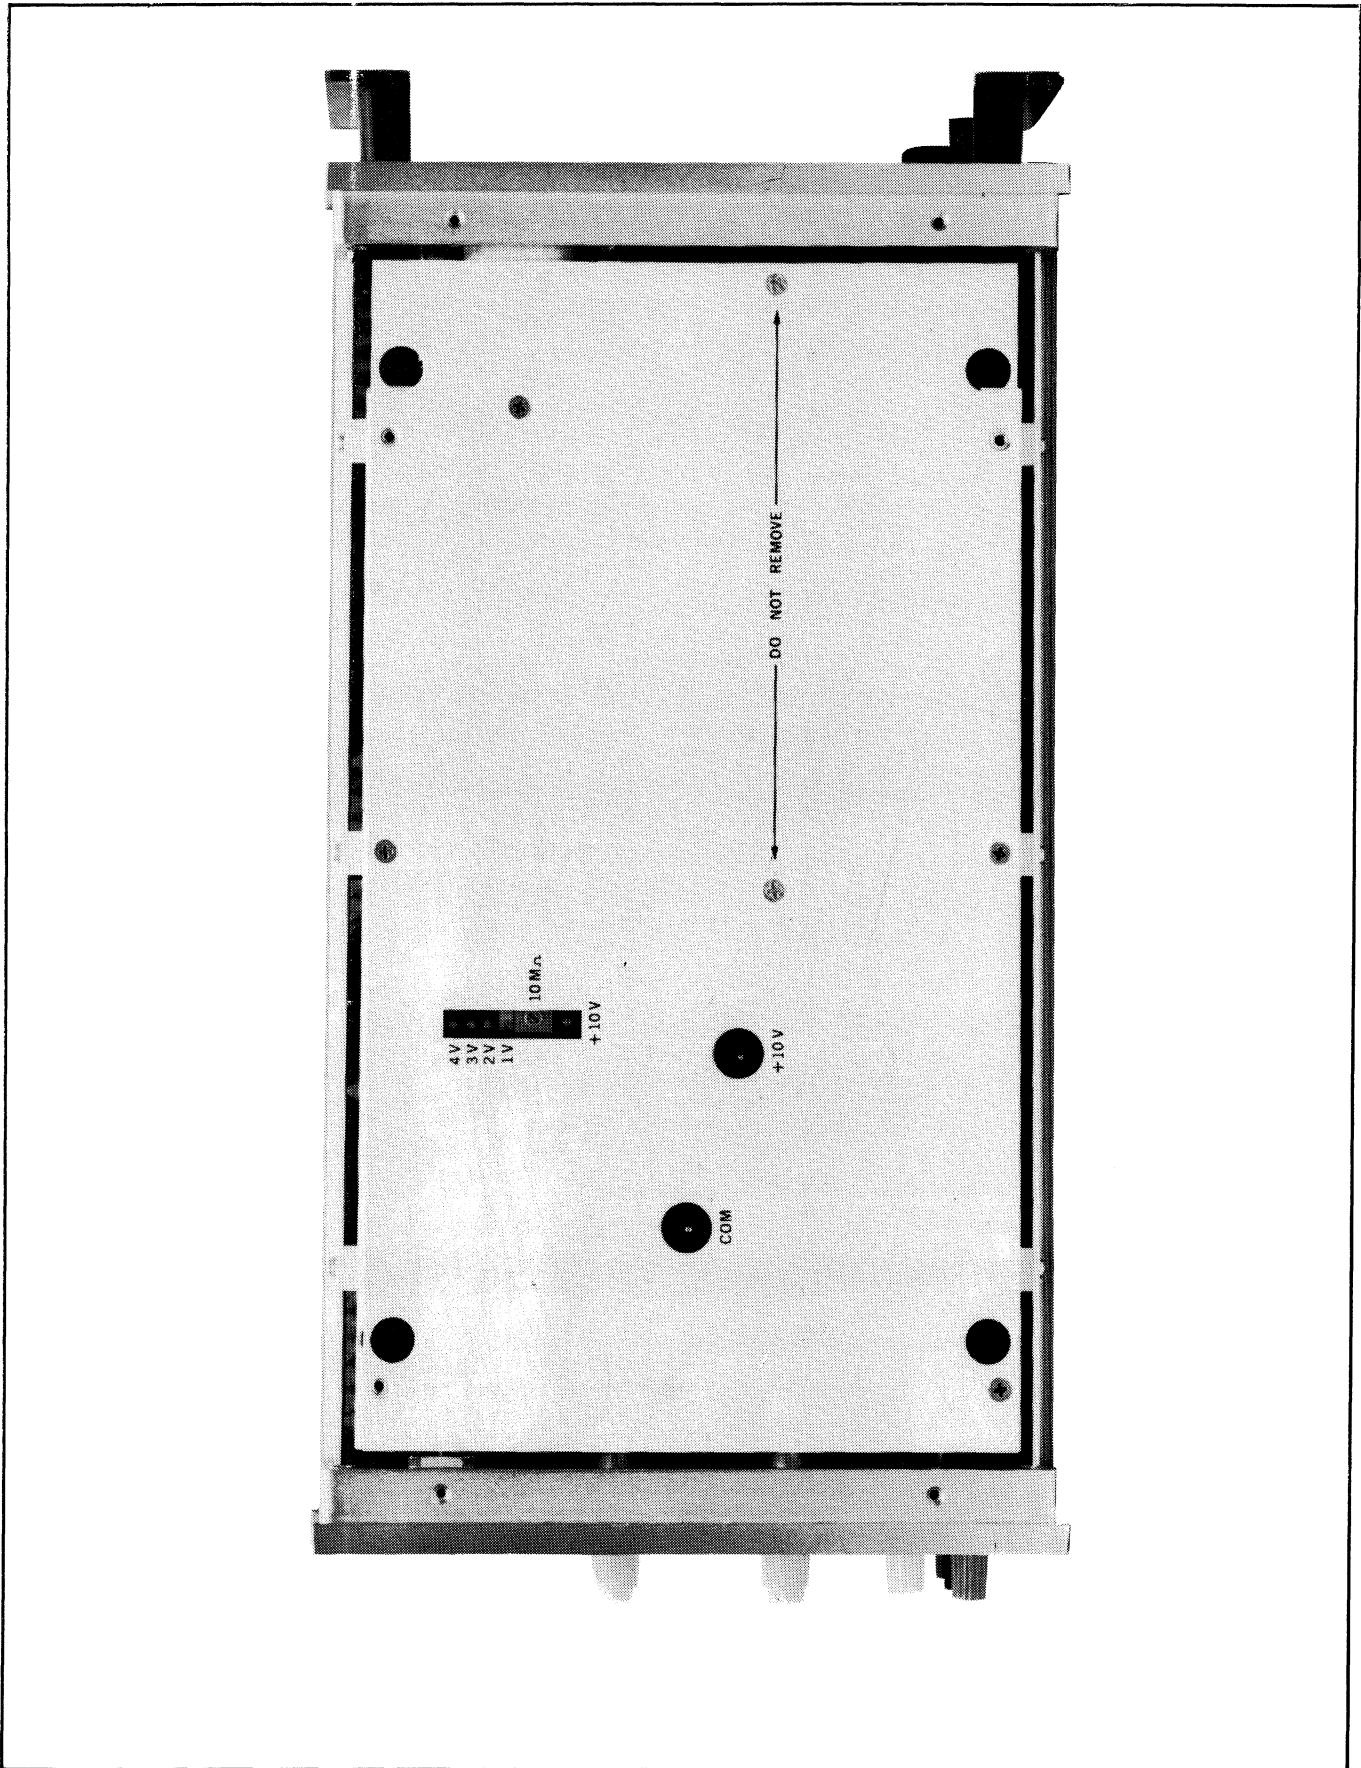

Figure 4-2. BOTTOM VIEW, GUARD INSTALLED
- b. Remove the bottom dust cover. Access is now provided to assemblies shown in Figure 4-2.